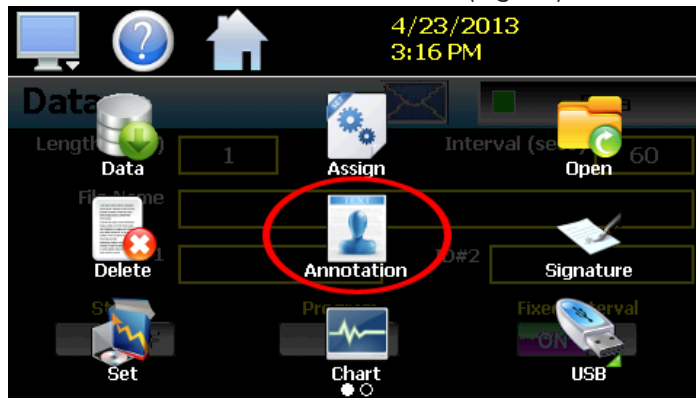

Fig. 83: Annotations icons
2. After turning on the data logging for a file, select MONITOR - ANNOTATIONS icons (Fig. 83).